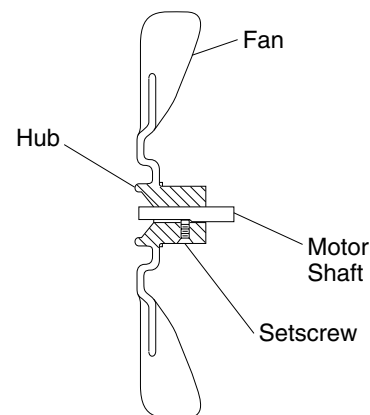

Figure 15 - Fan Cross Section
15. Replace fan on motor shaft. Make sure set screw is touching back of flat surface on motor shaft (see Figure 15).